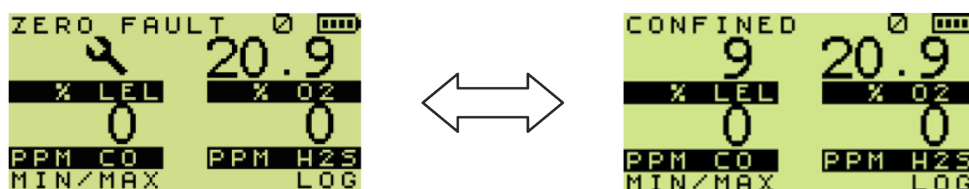

Figure 27: Zero Fault (LEL)
- A flashing wrench alternating with a gas value, as shown in Figure 27: Zero Fault (LEL).
2. 'ZERO FAULT' and a wrench symbol, alternating with a gas reading, as illustrated in Figure 27: Zero Fault \(LEL\).